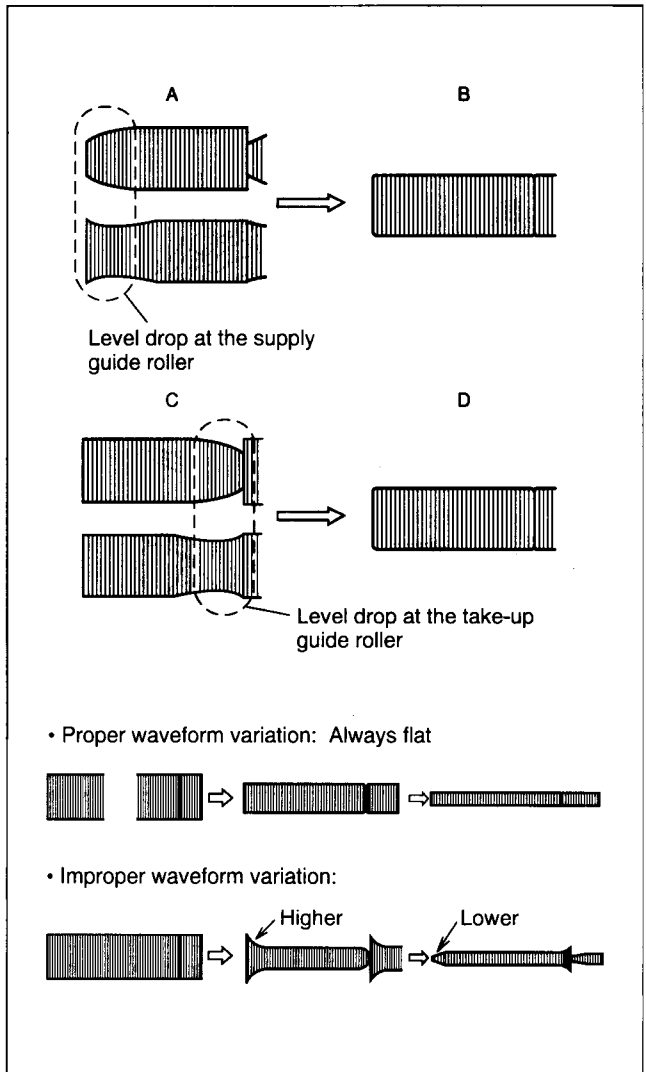

Fig. 2-4-3
- Reduce the FM waveform while pressing the channel buttons (▲, ▼) during playback. If a drop in level is found on the left side as shown in Fig.2-4-3, turn the guide roller of the pole base assembly (supply side) with the roller driver to make the FM waveform linear. If a drop in level is on the right side, likewise turn the guide roller of the pole base assembly (take-up side) with the guide roller to make it linear. (Fig.2-4-3)
- Then playtape (EP) and make sure that the FM waveform varies in parallel and linearly with the tracking operation. When required, perform fine-adjustment of the guide roller of the pole base assembly (supply or take-up side).
- After tightening the set screw, play the alignment tape (SP) and (EP) again to make sure that the FM waveform has correct variation.